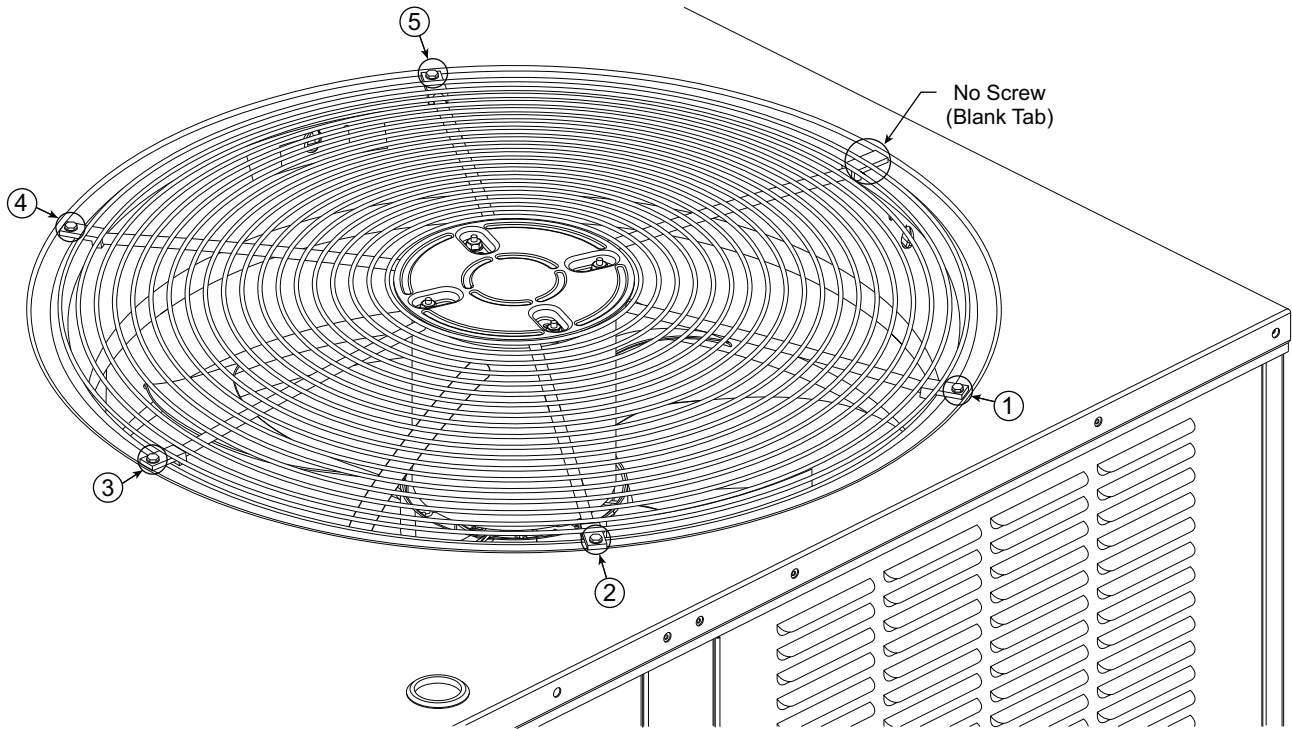

Fig. 29 — Condenser-Fan Assembly — Screw Pattern Sequence
6. Replace condenser-fan assembly. When replacing the condenser-fan assembly follow the screw pattern sequence shown in Fig. 29. The screws must be replaced in the sequence shown in the figure.